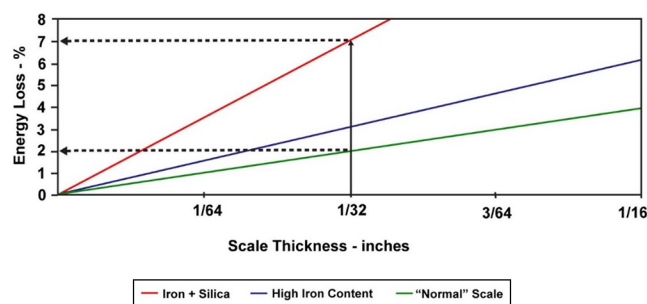

Figure 1. Energy loss from scale deposits.
Common issues affecting sustainability in energy or water consumption are scale, corrosion, and microbiological growth. Both scale deposits and microbiological fouling are very insulating on heat exchange surfaces, requiring process pumps to run longer or at higher speeds or to use more water to achieve desired cooling and increasing overall costs (Fig. 1). Corrosion leads to equipment failure, and the root cause is often biological. The Association for Materials Protection and Performance estimates that 20% of corrosion is microbiologically influenced corrosion (2).